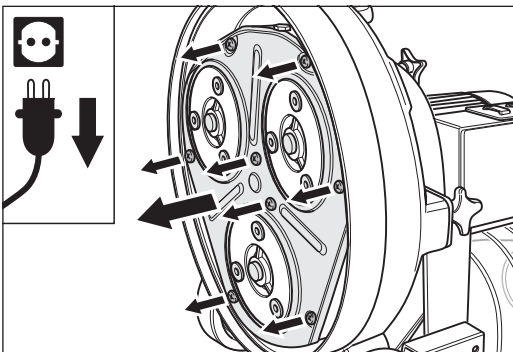

Fig. 103 Remove the eight screws and pull off the cover.
- 3** Remove the eight fixing screws of the cover and remove the cover (fig. 103).